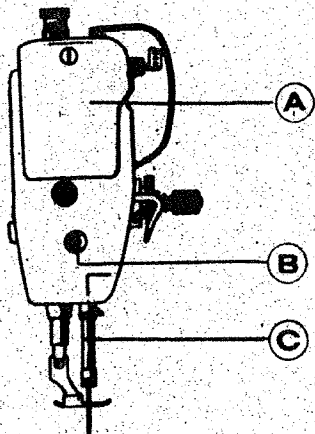

Fig. 31
1) Adjusting the needle bar position (Fig. 31)